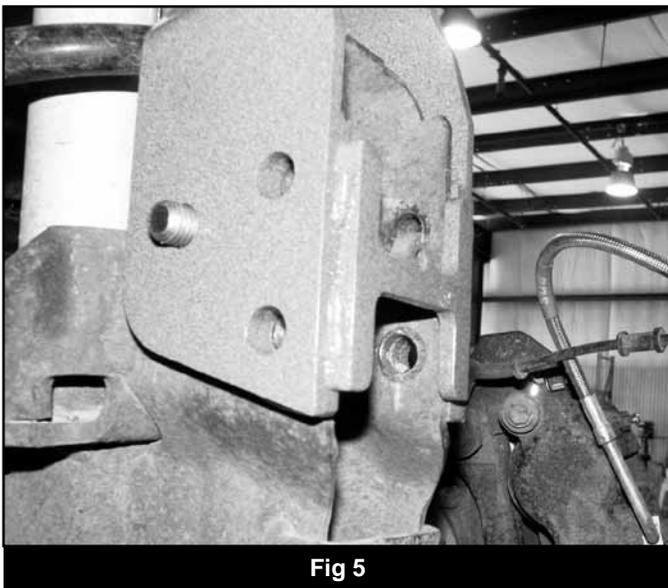

Fig 5
22. Adjust the control arm relocation bracket so the backing plate is parallel to the back edge of the original axle mount and mark the four holes to be drilled (two inner and two outer). Remove the bracket and drill 9/16" holes at the marks. (Fig. 5)